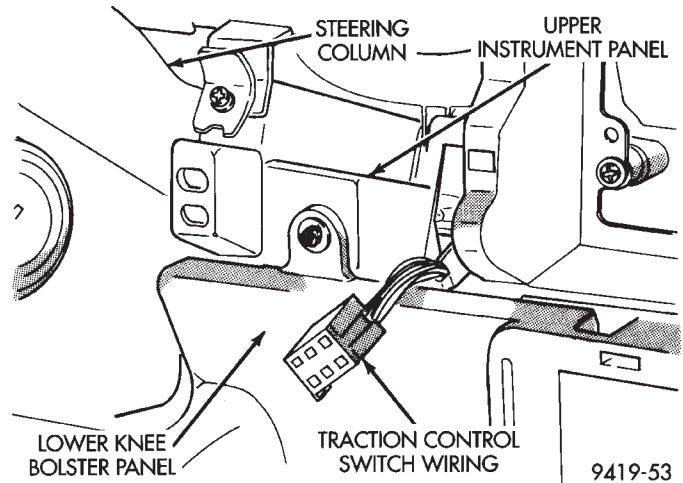

Fig. 15 Lower Knee Bolster To Upper Instrument Panel Attachment
(15) Remove the screw, attaching the lower knee bolster panel to the upper instrument panel (Fig. 15).
(21) Install the screw (Fig. 15) attaching the center of the lower knee bolster to the upper instrument panel.